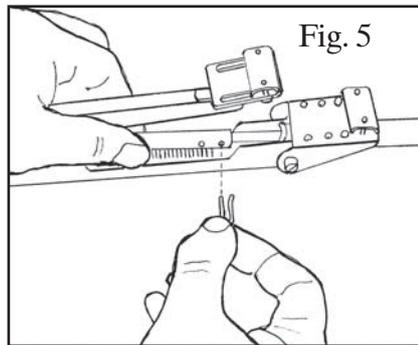

Fig. 5
- 2b. For greenhouses made out of wood, get some screws for wood – and then follow our instructions outlined under pos. 3-4-5-6
- 2c. On aluminium-greenhouses where our clamps do not fit, read the manual supplied by the greenhouse manufacturer – and then follow our instructions mentioned under pos. 3-4-5-6
3. Insert the piston rod (2) on the cylinder (1) into the push-rod (4), and align the hole at the end of the piston-rod with Hole A in the push-rod, and lock it by inserting the small hairpin (5) – see Fig.5.